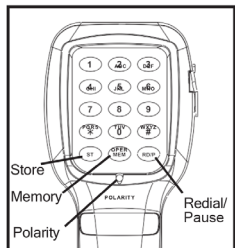

Figure 2
3 function keys for storage management: Store (ST), Memory (MEM), and Redial/Pause (RD/P). (Figure 2).